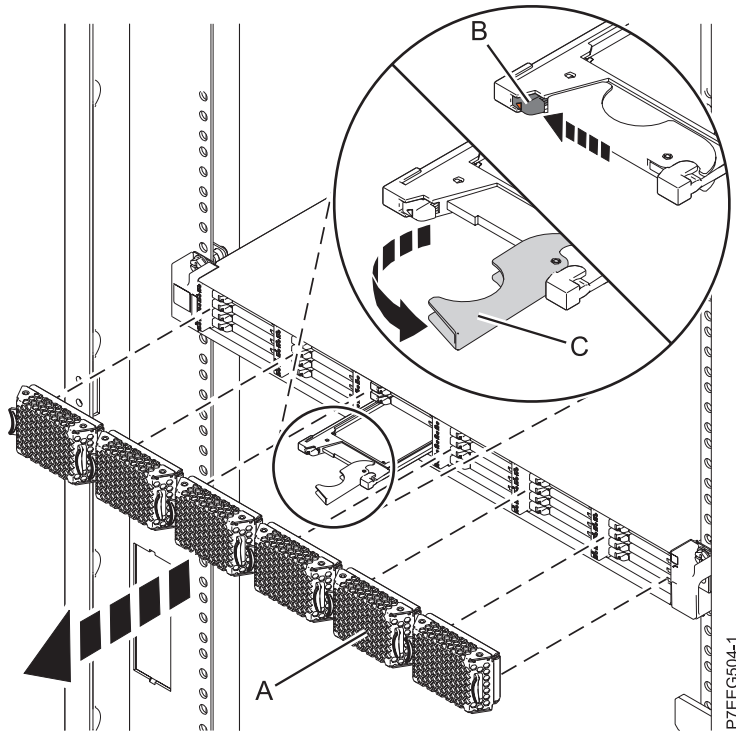

Figure 13. Removing the solid-state drive from the 58/88 PCIe storage enclosure
4. Pull off the bezel (A) that covers the slot that contains the solid-state drive.
5. When the solid-state drive identify LED turns on solid, slide the release latch (B) over gently to unlock the drive handle. See Figure 13 on page 24.
6. Grasp the handle (C) and pull the drive partially out of the slot.